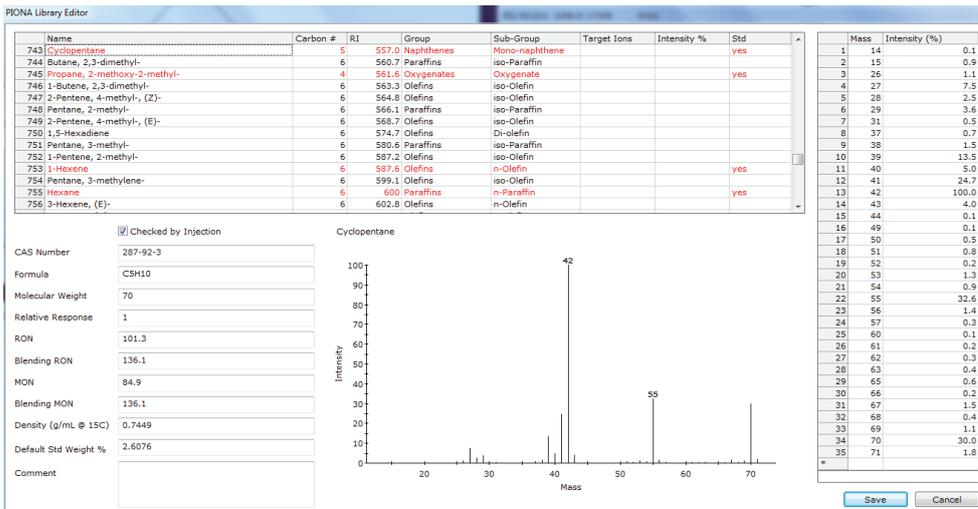

Figure 1. PIONA library with 1100 components, which can be expanded by the user.
- ▲ MS library containing 1100 mass spectra of different compounds present in gasoline/naphtha. See figure 1. The user can expand the library with additional components.